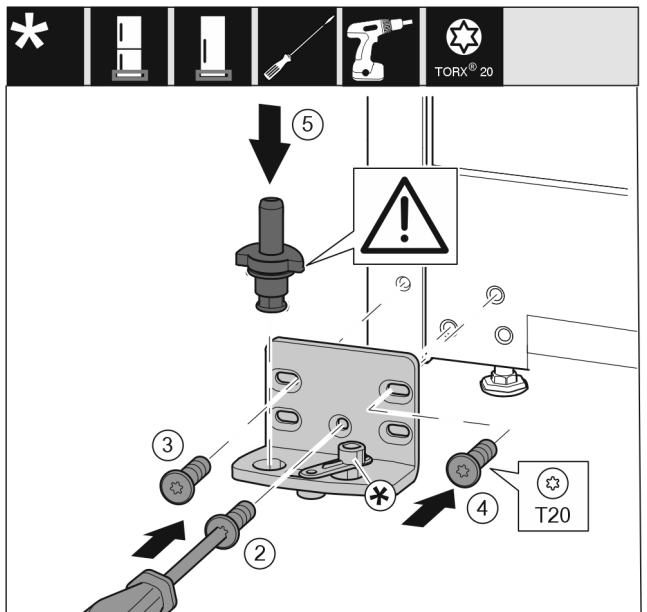

Fig. 16
- Place the swap bearing block on the other side and use a screwdriver to screw it on. Start with the screw Fig. 16 (2) at the bottom in the middle.
- Tighten screw Fig. 16 (3) and screw Fig. 16 (4).
- Insert the bearing bolt Fig. 16 (5) completely. Ensure that the latching cam is pointing towards the rear.